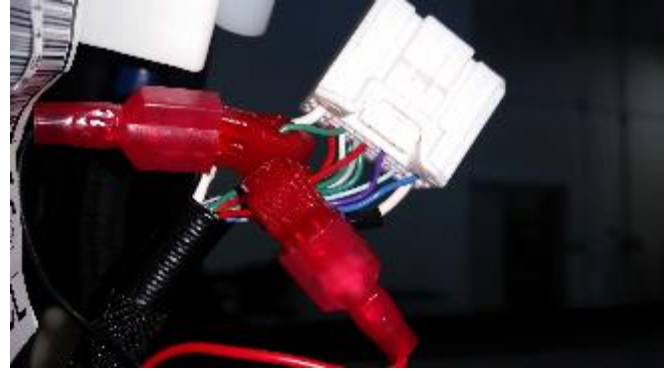

Figure 21
- Using a Red T-tap, connect the **Red** wire from the puddle light power harness to the **Red** wire in **Pin 13** of the **FS1** connector in the A-pillar (Figure 21).
- Using a Red T-tap, connect the **Black** wire of the puddle light power harness to the **Green** wire in **Pin 15** of the **FS1** connector in the A-pillar (Figure 21).